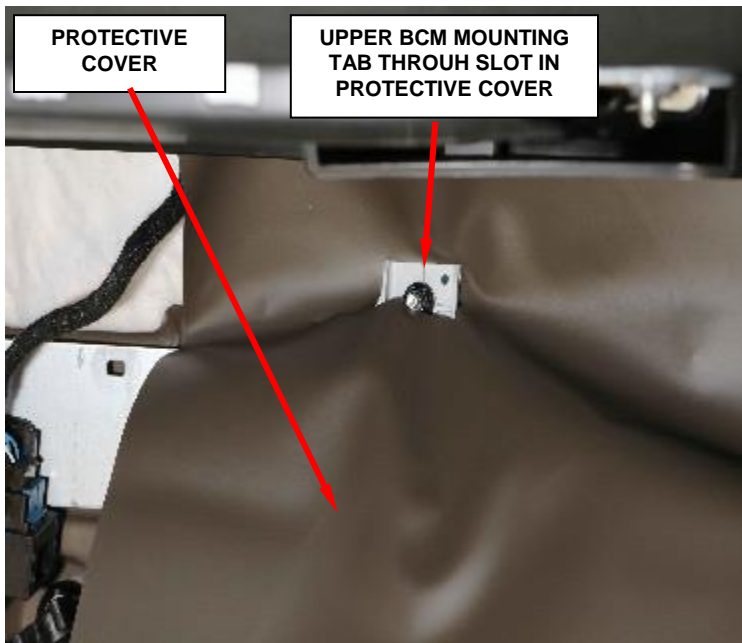

Figure 24 – Protective Cover Over BCM Tab
6. Insert the protective cover on the upper BCM mounting tab, as shown (Figure 24).